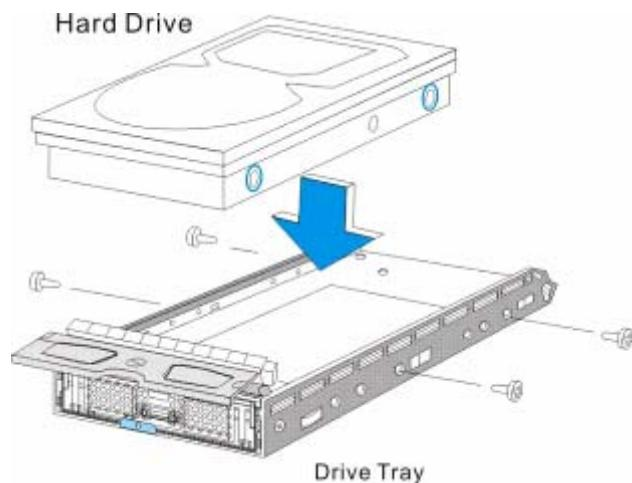

Figure 2-3: Installing a Hard Drive
- Step 1.** **Place the Fibre hard drive into the drive tray** (as shown in *Figure 2-3*), making sure that the interface connector is facing the open side of the drive tray and the label side is facing upwards.
- Step 2.** **Adjust the drive's location** until the mounting holes in the drive canister are aligned with those on the hard drive. Use the screw holes closest to the rear end of the drive tray. Secure the drive with four supplied 6/32 flat-head screws. (See *Figure 2-3*)